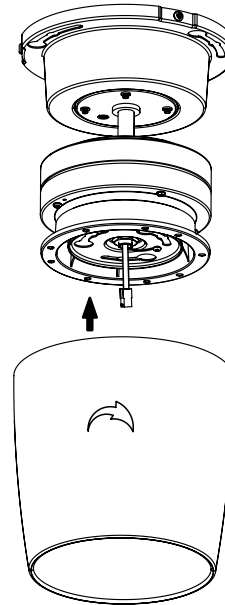

Fig. 12a
Step 1. Place motor housing up to the mounting plate cover, attach three hang tags with screws on the motor housing to the key holes on the mounting plate cover. (Fig. 12a)